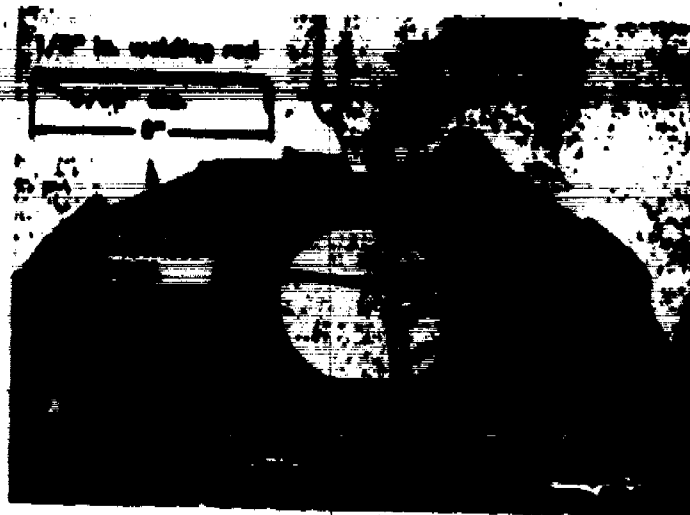

Fig. 106 - Installing Rear Main Bearing Cap Side Oil Seals
20. Install rear main bearing cap side oil seals. Use an installer tool made from 1/8" welding rod. To make the tool, puddle a ball on the end of the rod and file to approximately 5/32" diameter. See Fig. 106.